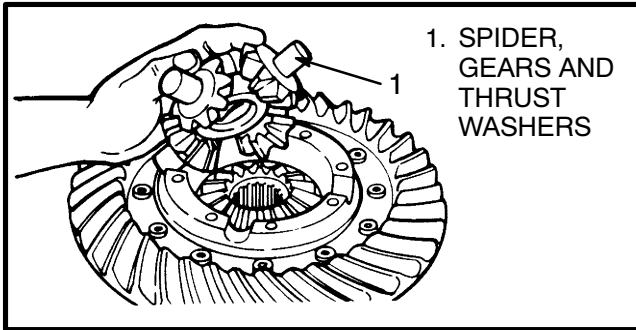

FIGURE 13. INSTALL THE SPIDER, GEARS AND THRUST WASHERS
- c. Install the spider, differential pinions and thrust washers into the differential case as shown in FIGURE 13.